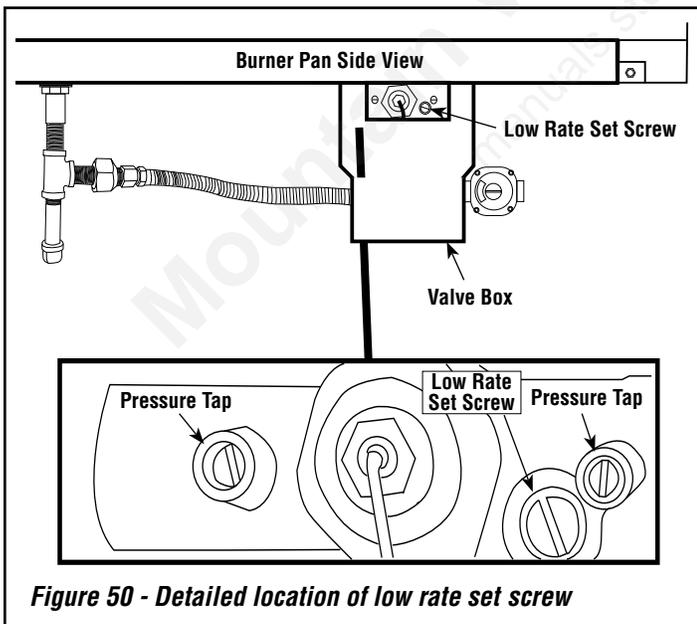

Figure 50 - Detailed location of low rate set screw
Step 10. Look for the low rate set screw in the gas valve box. There is a cutout (window) area that allows access to the low rate set screw. **Figure 50** shows the side view of the burner pan and a close-up detail.